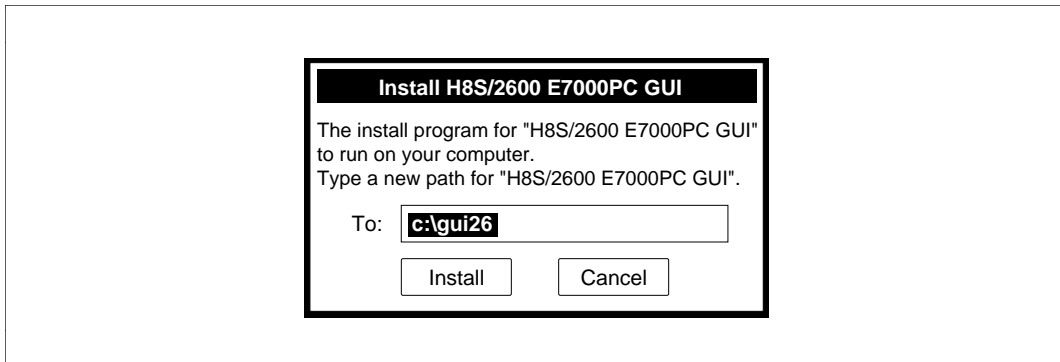

Figure 2-4 Installation Directory Specification (INSTALL)
- (5) Click the <OK> button to initiate the installer program.
- (6) When the installer program is initiated, a dialog box is displayed prompting the user to specify the directory in which the GUI-2600 is to be installed, as shown in figure 2-4. The installer program copies the files necessary for GUI-2600 execution to the directory specified in this dialog box. When the files already exist in the specified directory, a message box is displayed to confirm whether the user wants to overwrite the files in the directory.